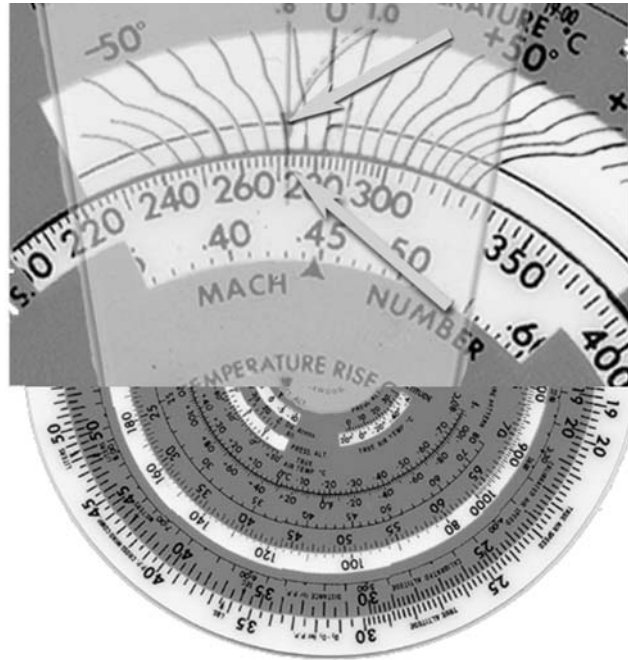

Figure 4.4-7 TAS 2 TEMP/TAS/MACH SPIRAL
2. Go to the large window at 12 o'clock to input the temperature. Be extra careful to set the green hairline at the intersection of the MACH spiral (black line running left to right) and the temperature wiggley (black line running top to bottom) representing - 20°. Now follow the green line down to the TAS scale and read the value, in this case, 272 kts. (Figure 4.4-7)